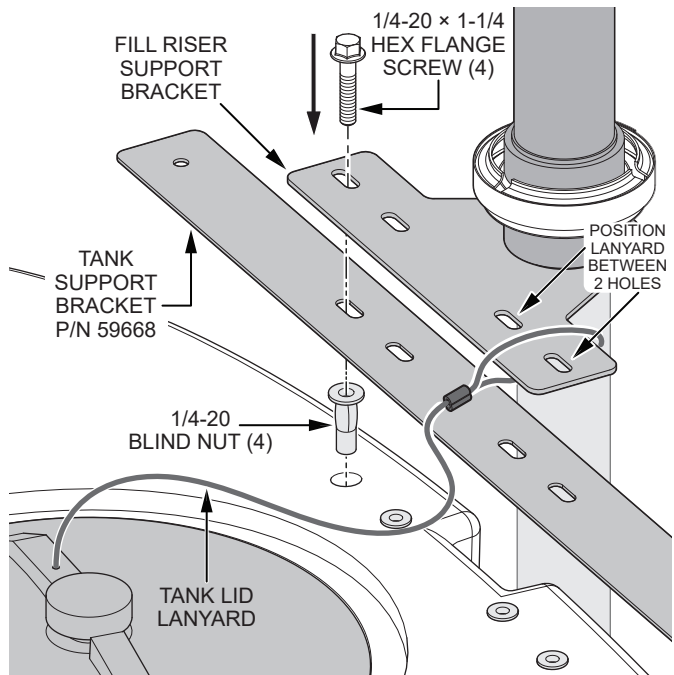

**Figure 2. Remove Hex Flange Screws (Front Of Tank)**
1. Remove the **four 1/4-20 × 1-1/4 hex flange screws** (Figure 2) securing the **fill riser support bracket** to the **water tank**. Leave the **four 1/4-20 blind nuts** (Figure 3) in place. Save the screws for re-use later in the procedure.